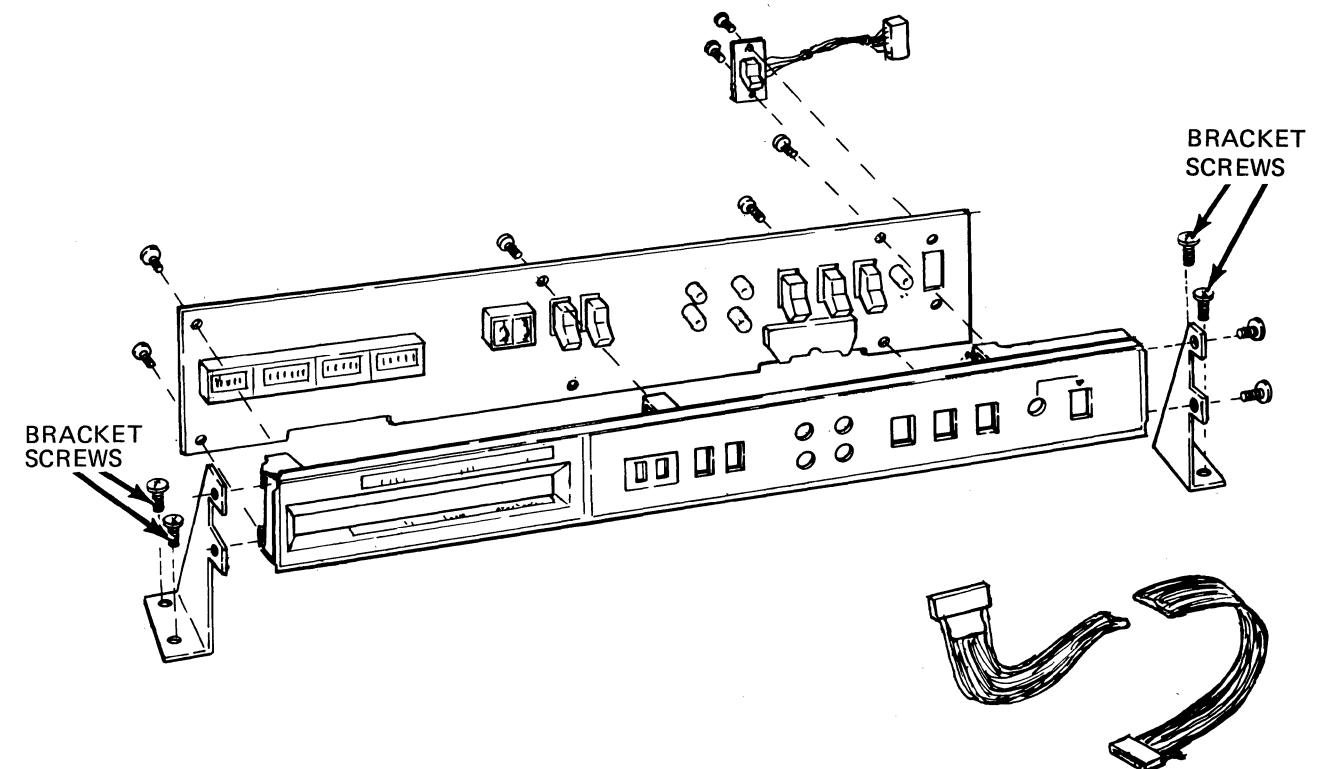

Figure 4-10 Typical Operator Control Panel
- e. Remove the control panel assembly by removing the four screws that secure the brackets to the base (see Figure 4-10).